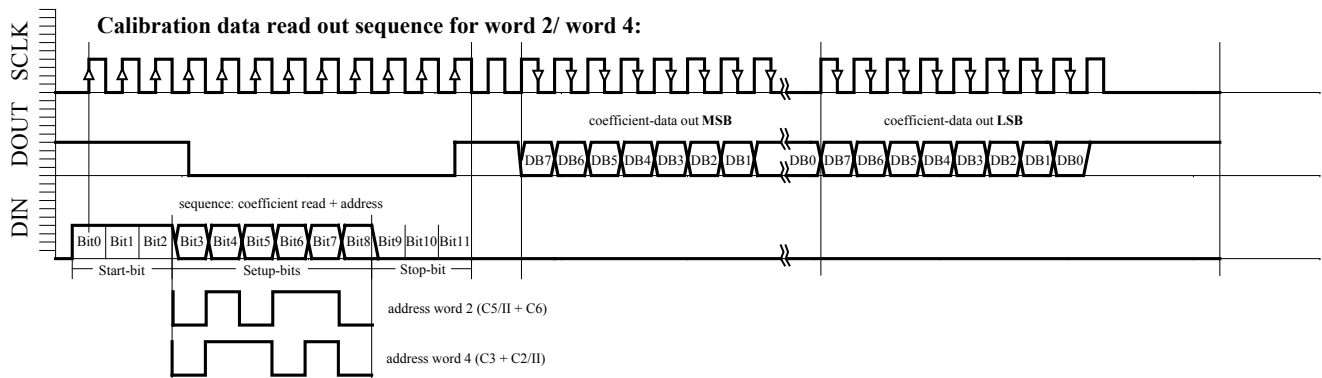

Figure 4d: W2, W4 reading sequence
- Calibration data read-out sequence for word 2 and word 4 (Figure 4d)